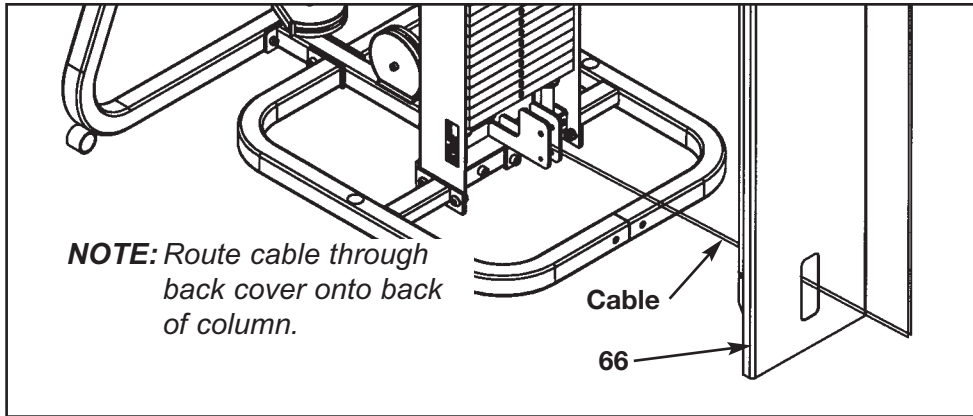

Figure 18
8. Routing Cable - Free Standing configuration only (see steps 8A - 8J and Figures 18 - 22).
- B. Route cable through lower slot in back cover (#66) and place back cover onto back of column. See Figure 18.